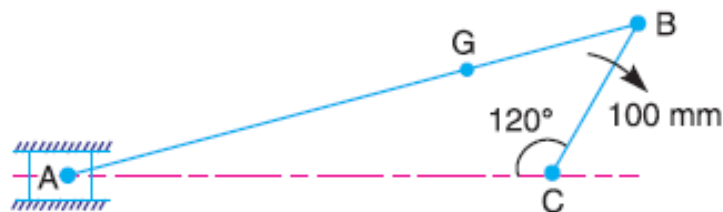

Fig. 3A: I.C. engine Mechanism
- 3A.** In an I.C engine mechanism is shown in Fig. 3A. The crank $CB = 100$ mm and the connecting rod $BA = 300$ mm with centre of gravity G , 100 mm from B . In the position shown, the crankshaft has a speed of 75 rad/s and an angular acceleration of 1200 rad/s². Find (i). Velocity of G and angular velocity of AB , and (ii). Acceleration of G and angular acceleration of AB . (06)